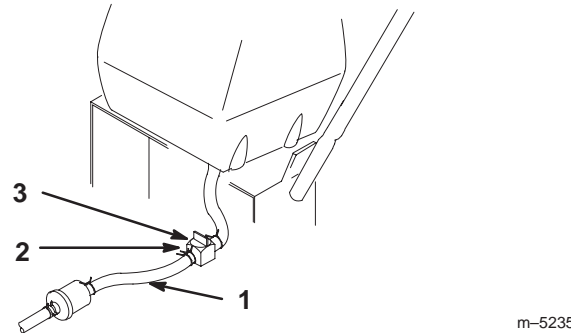

Figure 33
3. Squeeze the ends of the hose clamp together and slide it away from valve (Fig. 33).
4. Pull the fuel line off the valve (Fig. 33). Open fuel shut-off valve and allow gasoline to drain into a gas can or drain pan.
2. Close fuel shut-off valve (Fig. 33).